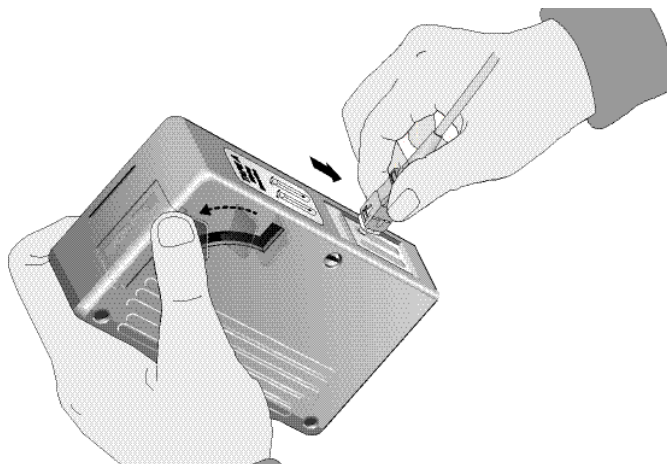

Figure 98. Rubbing the Ferrule Tip on the Cleaning Surface
1. With one hand, hold the cartridge cleaner and push the lever on the cleaning cartridge in the direction of the arrow to expose the cleaning surface, as shown in Figure 98.
2. Place the ferrule tip on the exposed cleaning surface and rub the ferrule in a downward direction, as shown in Figure 98.